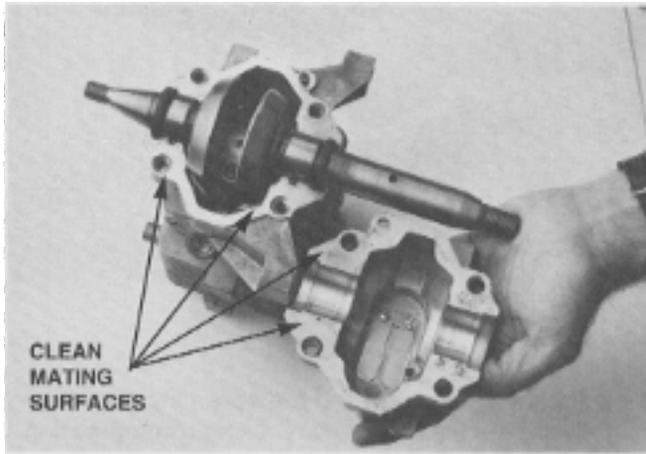

Figure 72
4. Clean crankcase surfaces with Gel Seal and Gasket Remover (**Figure 72**).